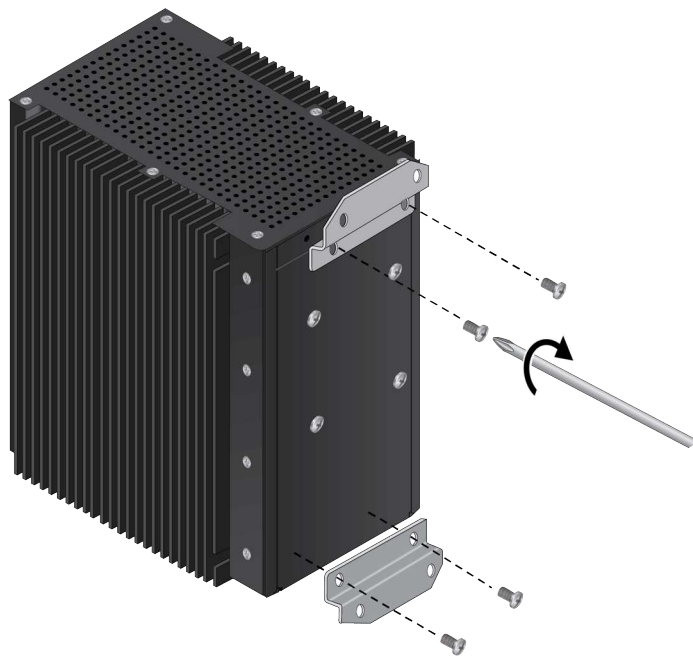

Figure 36. Installing the Wall Brackets on the Switch
5. Install the two wall brackets to the top and bottom of the rear panel with the four screws removed in the previous step or the screws in the accessory kit. Tighten the screws to 18 in-lbs. Refer to Figure 36.
5. Install the two wall brackets to the rear panel of the switch with the four screws removed in the previous step or the screws in the accessory kit. Refer to Figure 36 on page 86.